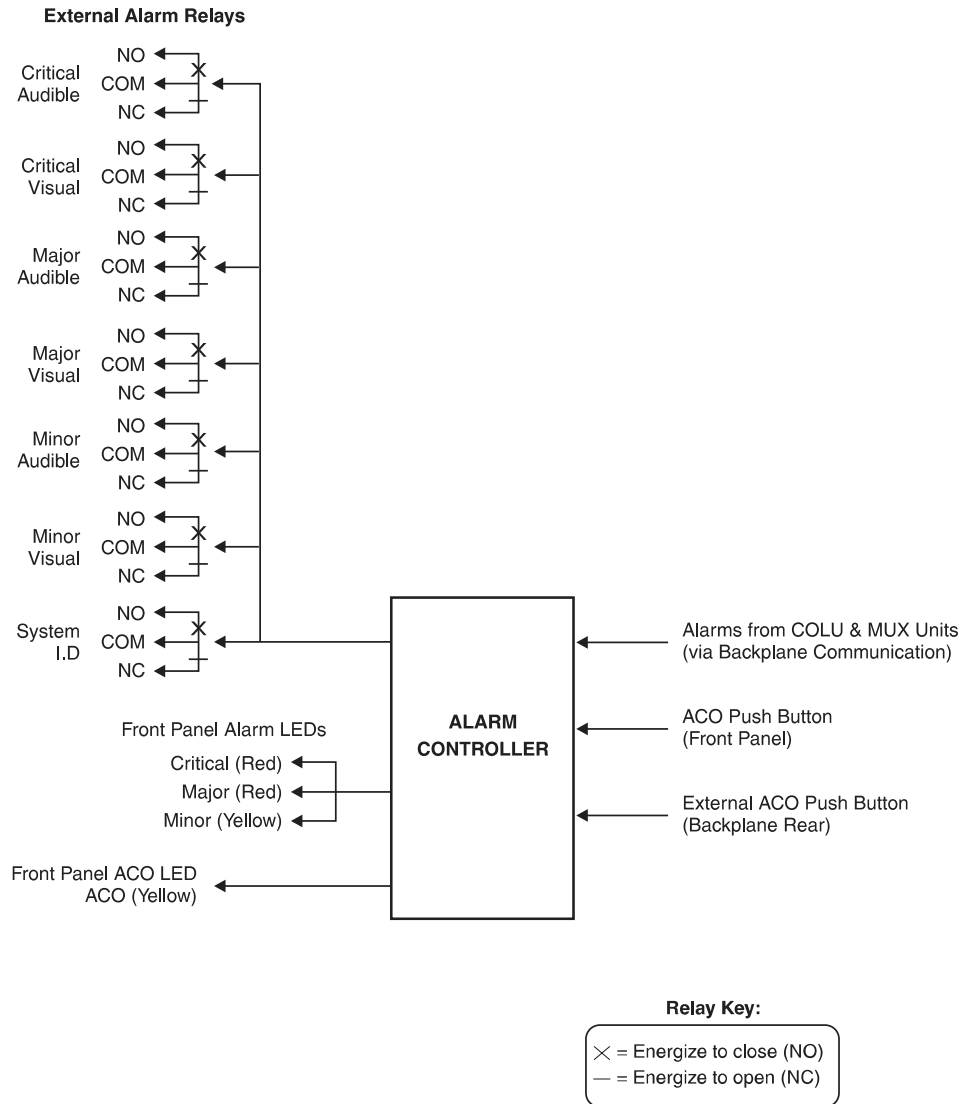

Figure 5 Alarm Relay Contacts from PAU to Wire-Wrap Field
The PG-Plus COTS provides access to the PG-Plus Alarm Unit (PAU) alarm relays by way of wire-wrap pins on the shelf backplane. Both normally open (NO) and normally closed (NC) relay operation is supported. Figure 5 shows the configuration of the alarm relays.